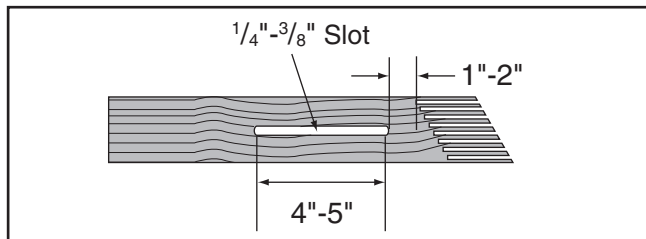

Figure 126. Slot routed in featherboard.
4. Rout $\frac{1}{4}$ "– $\frac{3}{8}$ " wide slot 4"–5" long in workpiece and 1"–2" from short end of featherboard (see **Figure 126**).